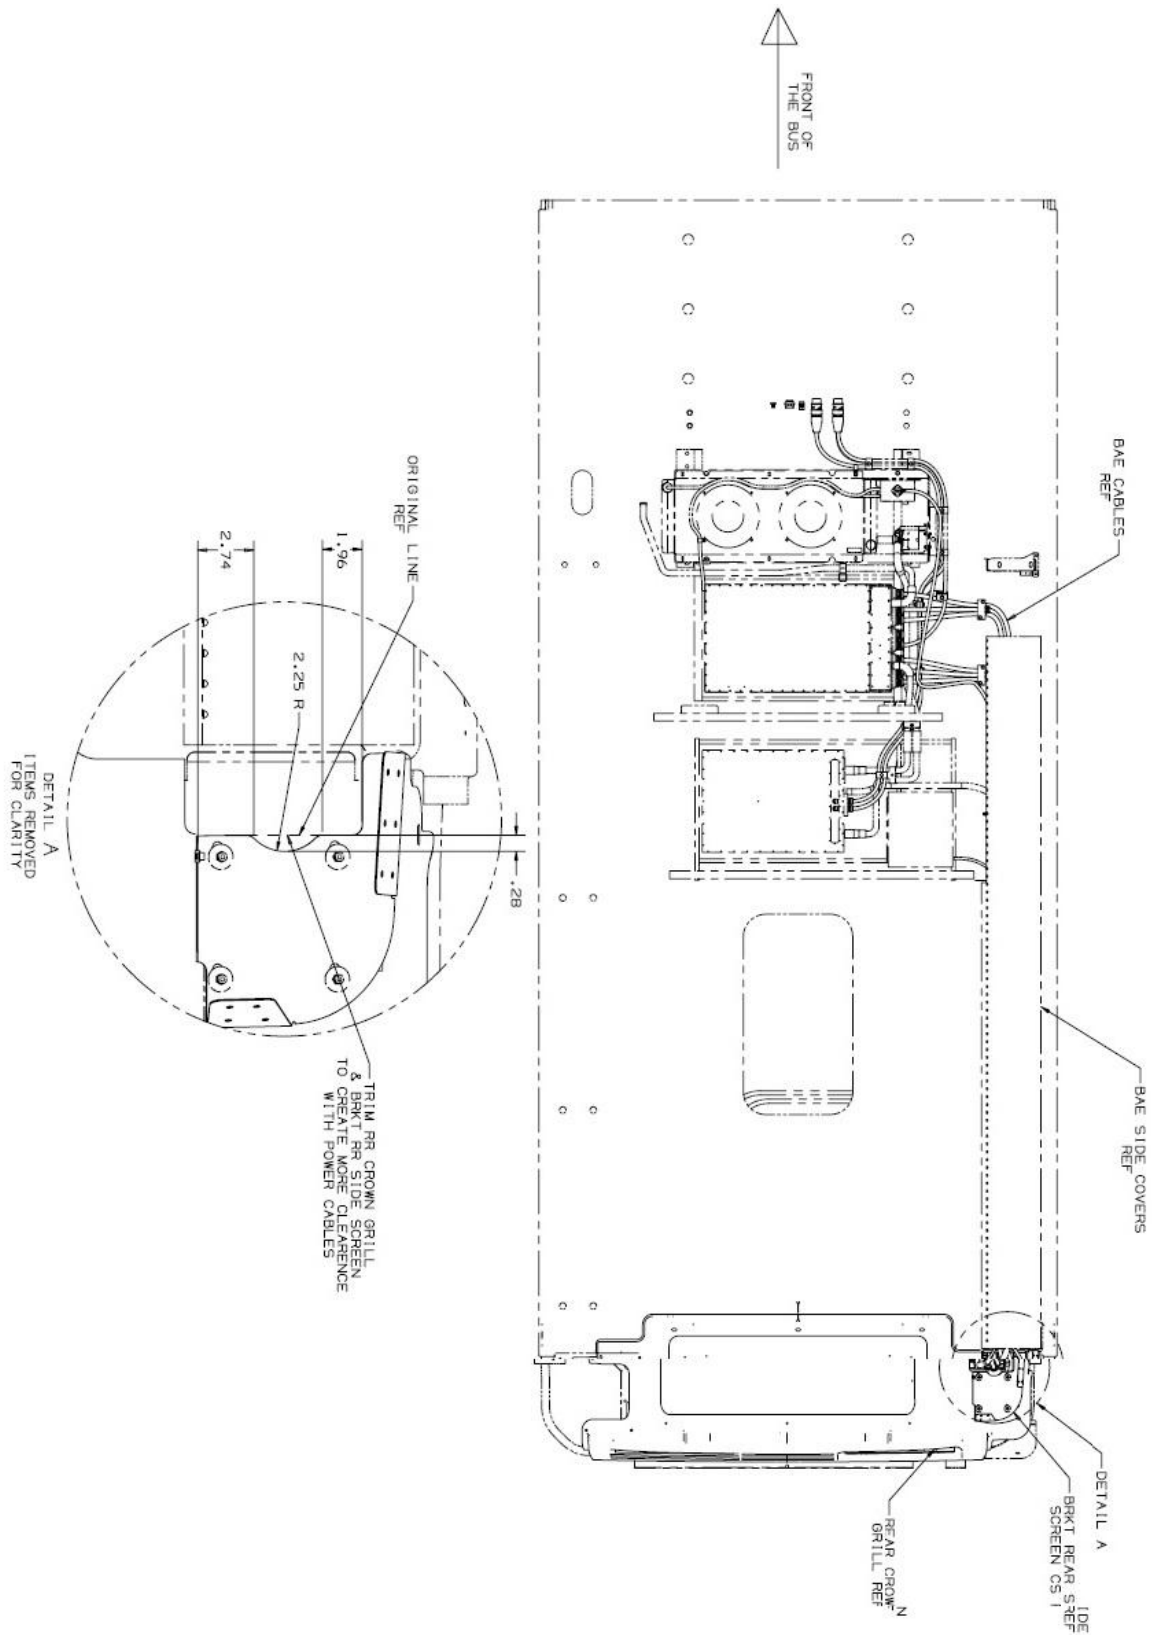

Figure 2: Rear roof crown panel and bracket trimming reference
3. To prevent the HV cables from chafing, trim the roof crown panel and bracket as shown in Figure 2. Apply primer to the bracket after trimming.